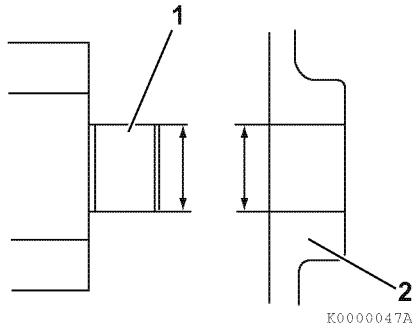

Figure 9-17
Determine the rotor shaft clearance. Measure the outside diameter of the rotor shaft **(Figure 9-17, (1))** and the bore diameter in the gear case housing **(Figure 9-17, (2))**.